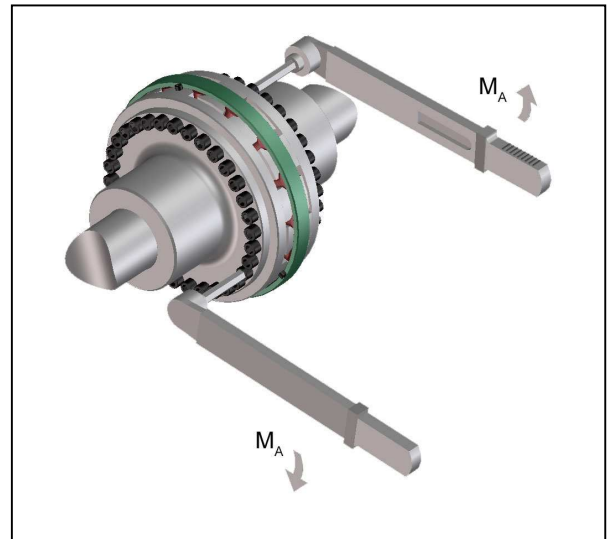

Fig. 13
- Tighten the bolts with the tightening torque specified in Table 10 (Fig. 13).